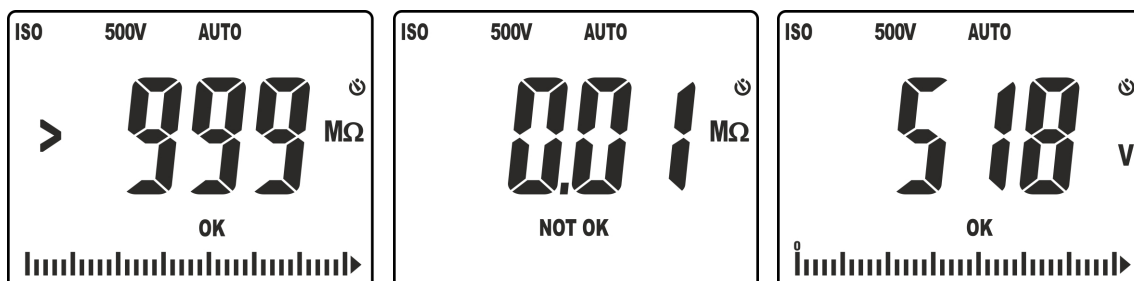

Fig. 18: Results of insulation measurement in AUTO mode
10. In the screen in Fig. 18 – left side, the value of insulation resistance is present (symbol “>999” indicates the out-of-range condition) with positive result “OK” (value higher than the set threshold). In the screen in Fig. 18 – right side, the value of insulation resistance is present with negative result “NOT OK” (value lower than the set threshold).